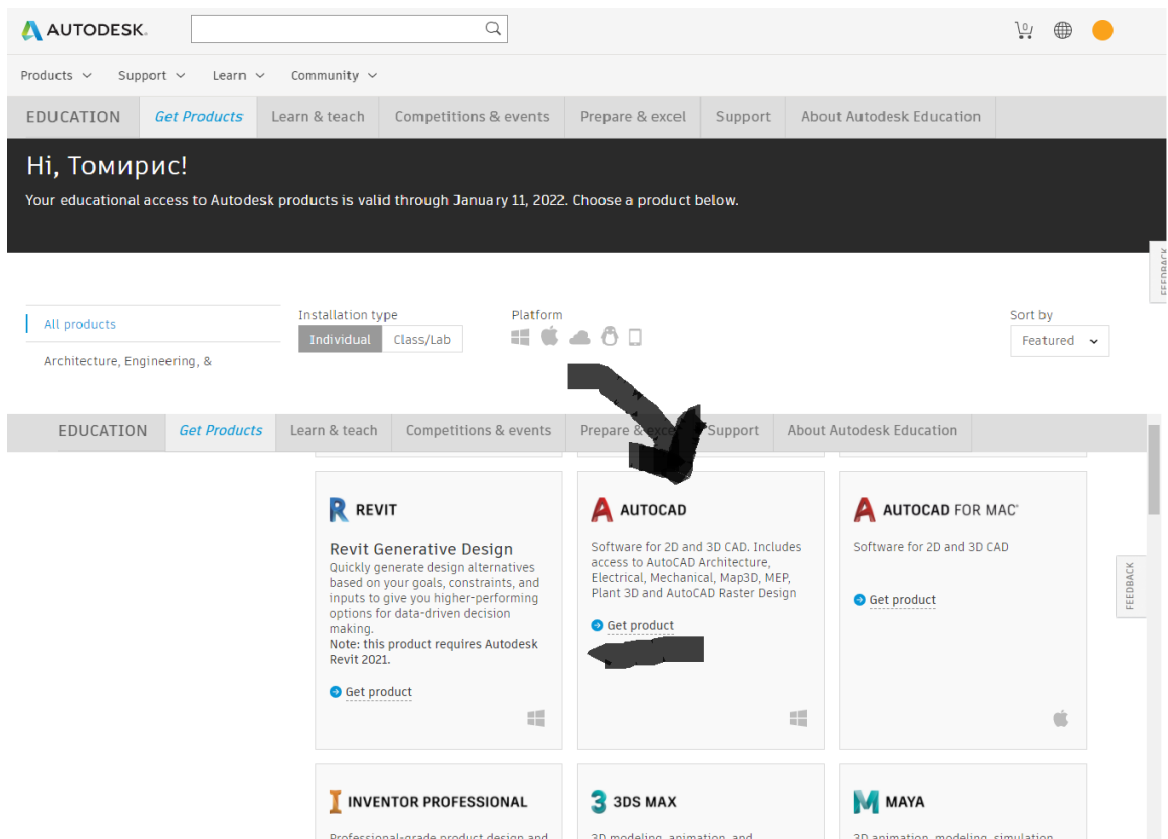

Figure 1.3 - Downloading the installation file
1.2.4 Further, after the system approves your status, you need to go to the site, register on it, download the AutoCad 2018 installation disk (AutoCad 2019, AutoCad 2020, AutoCad 2021 - depending on the characteristics of your PC) (figure 1.3).